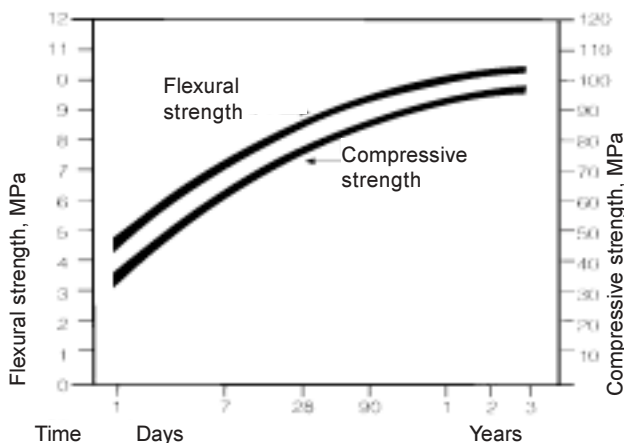

Fig 1. Typical average strengths of EMACO S88, thixotropic type, at 20 °C, mixed with 16% water.
- Compressive strength (100 - mm cubes): flexural strength (40 x 40 x 160 - mm specimens); see fig 1.